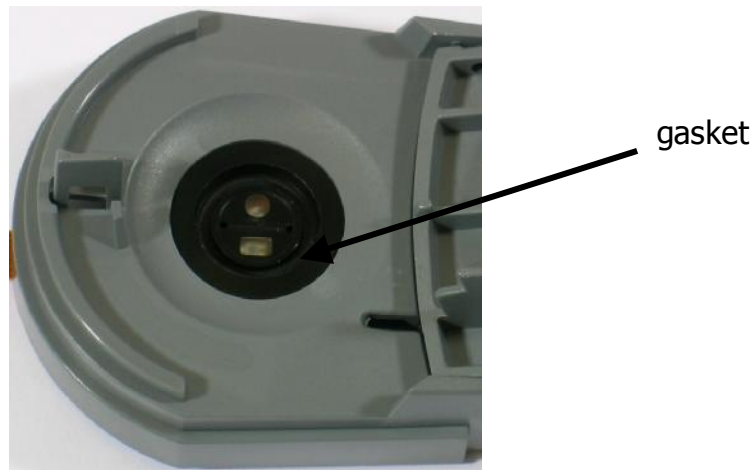
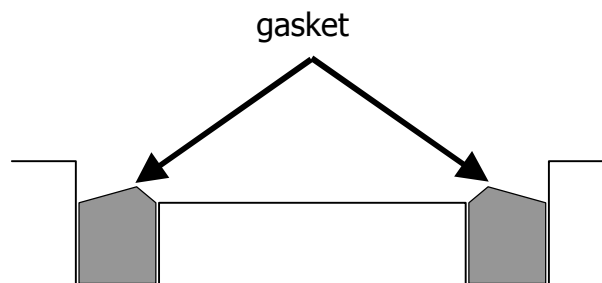

Figure 11 Replacement, Docking Station Gasket
Figure 12 Positioning of the Docking Station Gasket
5. Insert the new gasket (see *Figure 11*) by pressing it with a cotton swab soaked with 70% isopropanol into the lining groove. Make sure that no cotton wool remains on the gasket as it may cause leak problems. Place the **asymmetric** gasket as shown in *Figure 12*.